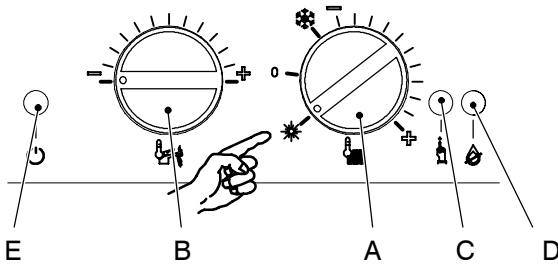

Fig. 10
- 4 Turn the boiler ON positioning the function selector knob A as indicated in Fig. 10 and ensure that